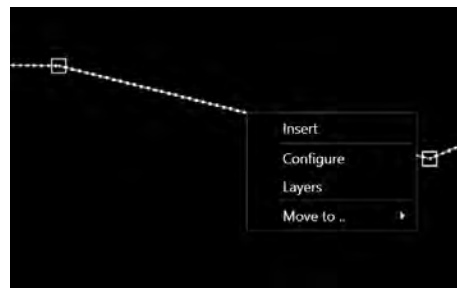

FIGURE 10-15 INSERT NODE POP-UP
4. Right clicking on the line while in Editing Mode will display a context menu with an Insert node option. Click this option to insert a new node at the mouse coordinates (see Figure 10-15)